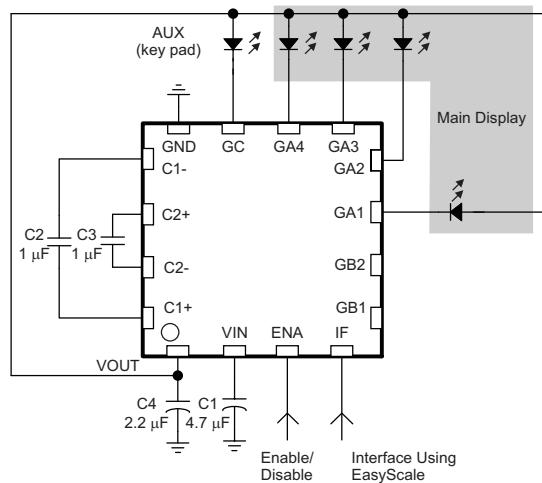

Figure 19. Application Circuit—Bar Mobile Phone Design
- **Bar (Figure 19)**—application circuit for driving four LEDs for LCD display backlight and LEDs for key pad backlight.